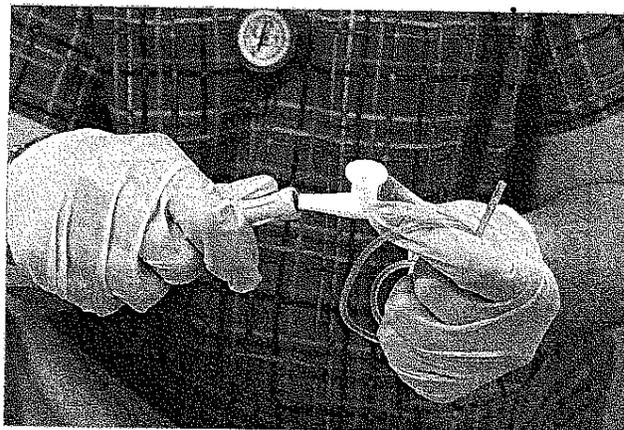

FIGURE 4. Connecting suction catheter to the suction tubing.
12. With dominant gloved hand, pick up sterile catheter. Pick up the connecting tubing with the nondominant hand and connect the tubing and suction catheter (Figure 4).